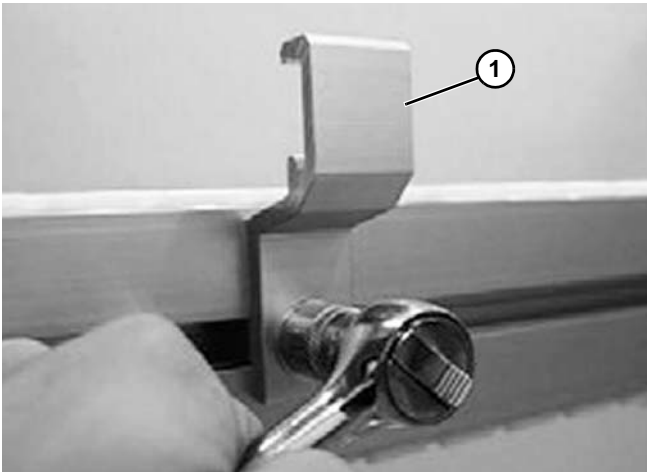

Figure 106
1. Fasten a fixed guide rail bracket support (**Figure 106, item 1**) to the conveyor beam using T-bolt.